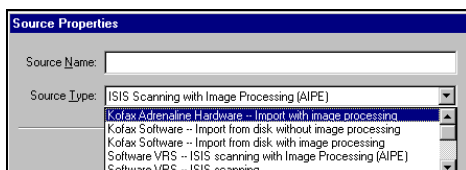

Figure 79. Source Type List
- b Select a **Source Type**. The selections for Source Type depend on the hardware and software engines configured on your system. Example source types are shown in Figure 79.